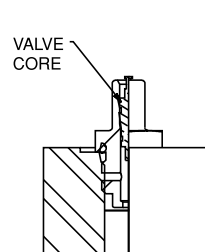
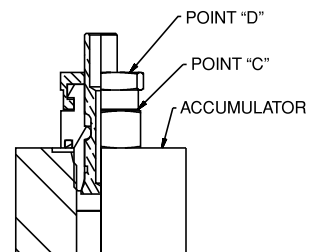

FIGURE 5
FIGURE 6
Make sure nitrogen supply is shut off. Attach hose to nitrogen bottle. If accumulator has a gas valve as shown in Figure 5 follow steps A through L and skip steps F and J. If accumulator has a gas valve as shown in Figure 6, follow steps A through L and skip steps E and I.
Accumulator having gas valve as per Figure 5.
- (A) Remove gas valve guard and gas valve cap.
- (B) Back gas chuck "T" handle all the way out (counter clockwise) before attaching charging assembly to accumulator gas valve.
- (C) Close bleed valve.
- (D) Making sure not to loop or twist the hose, attach swivel nut to gas valve and tighten (10-15 in. lb.) (11.5-17 cm kg).
- (E) Turn gas chuck "T" handle until the gauge starts showing the pressure in the accumulator. Do not turn the "T" handle all the way down, as it will dam age the valve core.
- (F) **For gas valves as shown in Figure 6**, hold gas valve at point "C" with one (1) wrench while un screwing hex nut at point "D" with a second wrench. This will open the poppet inside the gas valve. Note: Three (3) turns will fully open the valve.
- (G) Crack open nitrogen bottle valve and **slowly** fill accumulator. Shut off when gauge indicates desired pre-charge.
- (J) **For gas valves as shown in Figure 6**, with a wrench, tighten hex nut at point "D" to close internal poppet (5-8 ft. lbs.) (5.7-9.2 cm kg).
- (K) Hold gas valve to keep from turning, loosen swivel nut, remove assembly. Check for precharge leak using a common leak reactant.
- (L) Replace gas valve cap (10-15 in. lbs.) (11.5-17 cm kg) and valve guard. (Gas valve cap serves as a secondary seal.)
Accumulators having gas valve as per Figure 5.
Accumulators having gas valve as per Figure 6.
For accumulators having gas valve as shown in Figure 5, attach gauging assembly as shown in Figure 2 following Steps 1 through 5. Then, open bleed valve until all gas pre-charge is relieved from accumulator. **Then remove gauging assembly and gas valve.**
For accumulators having gas valve as shown in Figure 6, remove gas valve guard and gas valve cap. Then hold valve at point "C" with one (1) wrench while unscrewing hex nut at point "D" with a second wrench. Wait until all gas pre-charge is relieved from the accumulator and **then remove gas valve.**